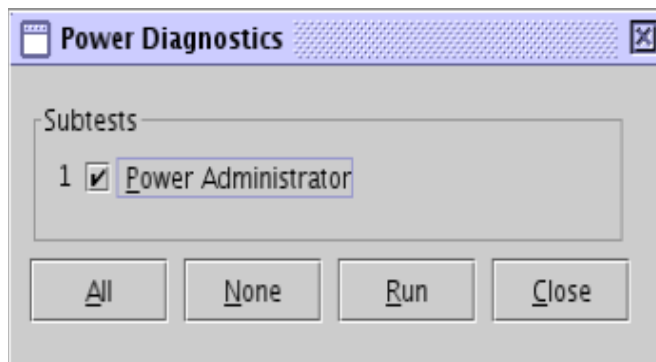

Figure 8-20. Power Diagnostics Window
8.3.3.3 Power Diagnostics. The `Power Diagnostics` window (see Figure 8-20) is used to run subtests that check the power subsystem in the RDA cabinets.